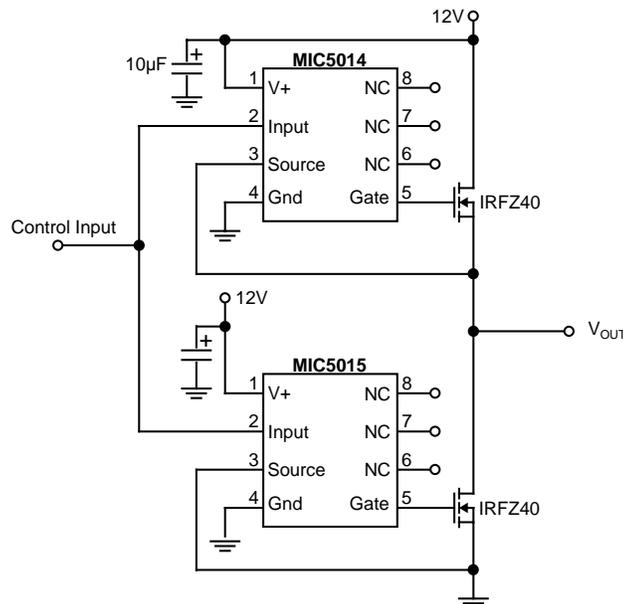

**Figure 12: High Side Driver With Load Protection**
**High Side Driver With Load Protection** (Figure 12) Although the MIC5014/15 devices are reverse battery protected, the load and power FET are not, in a typical high side configuration. In the event of a reverse battery condition, the internal body diode of the power FET will be forward biased. This allows the reversed supply access to the load.